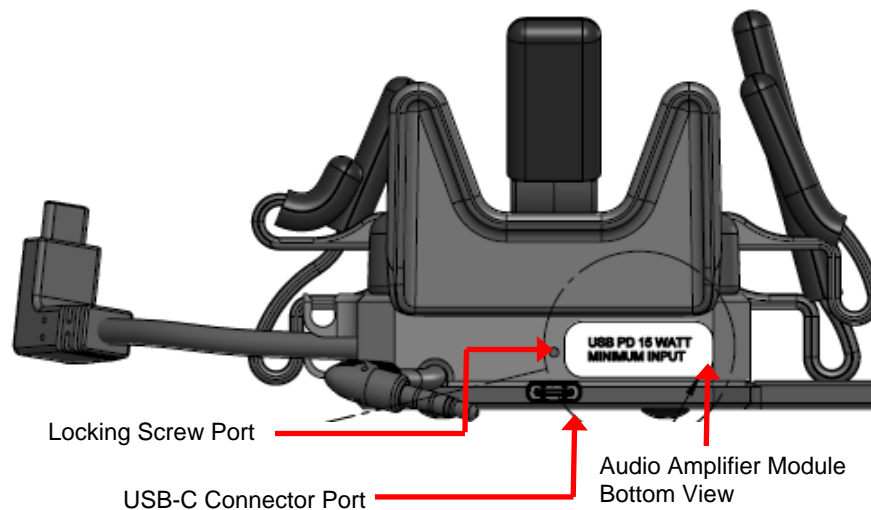

Figure 142: Cradle Assembly – Bottom View
1. Attach the USB-C connector (with a top locking screw) from the Power USB-C cable (3ft) to the USB-C connector port on the bottom of the Audio Amplifier module. After which, screw down the top locking screw into the top locking screw port adjacent to the USB-C connector port (see **Figure 142**).